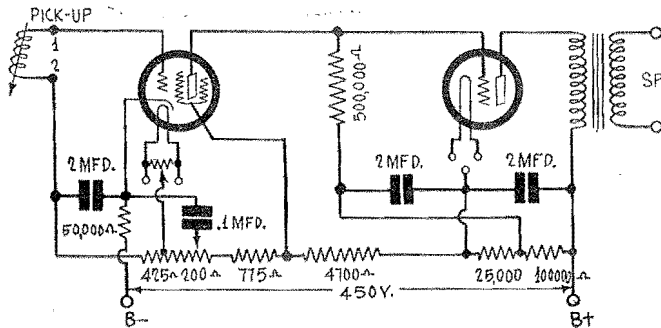
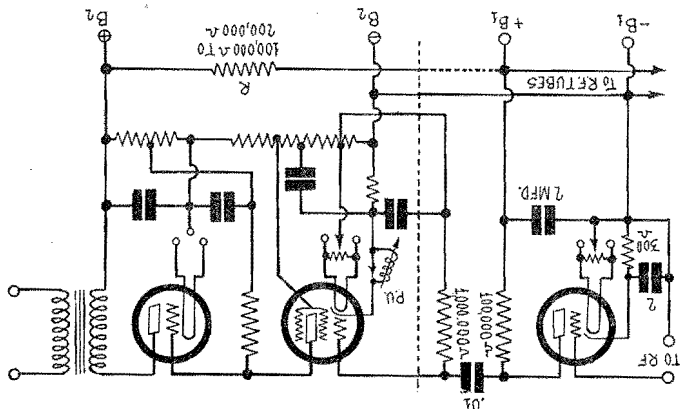

FIG. 1
FIG. 2
The connection of a phonograph pick-up unit to a Loftin-White amplifier is shown in Fig. 1. The usual input terminals of the non-reactive amplifier are numbered (1) and (2) and the pick-up unit is connected across these. That is all there is to the connection.
When a radio frequency amplifier is to precede the non-reactive audio amplifier it might be coupled as shown in Fig. 2. The first tube shown in this circuit is the detector, and this is followed by a regular resistance coupler. The dotted line shows the separation between the non-reactive amplifier and the detector. The design of the audio amplifier is exactly the same as that of the circuit in Fig. 1.
If it is desired to arrange the circuit in Fig. 2 so that a phonograph pick-up unit may be connected with a minimum of changes it is possible to put the unit in series with the cathode as indicated by PU. A switch may be provided so that the unit may be short circuited when radio is to be received. It is also possible to remove the one megohm grid leak and substituting the pick-up unit. Of course, when the pick-up unit is put into operation the radio frequency circuit should be killed.
If a radio frequency amplifier of any kind is available and it is desired to use this in conjunction with a non-reactive amplifier it is well to use all of it, including the detector. If the amplifier is sensitive and selective enough when an ordinary audio amplifier is used it will be so when a non-reactive circuit is employed. A simple way of combining the two is illustrated in Fig. 2. If separate B voltage supplies are to be used in this connection it is only necessary to remove the high resistance R and to connect the low voltage B supply to the terminals marked "To RF tubes," as marked by the terminals B1 minus and B1 plus. Lower voltages may be required for the screens of the tubes in the RF amplifier, but they will be provided for in the low voltage B supply.
In case there is a stopping condenser between the plate of one tube and the grid of another, as in Fig. 2, the two tubes separated by this condenser may be put on the same filament winding. Likewise when two tubes are coupled with a transformer they may be put on the same winding. It is only when they are coupled directly as in the Loftin-White system that they must be on separate windings.
Many non-reactive amplifiers have been published purporting to be Loftin-White, but not all of them should be blamed on these engineers. The circuits they have worked out are characterized by a hum-bucking condenser and by a high resistance in the cathode lead of the screen grid tube, higher than that necessary to give the proper bias to the control grid. Fig. 1 shows a typical circuit of this type. Both of these exclusive features are highly important. The hum-bucking condenser is effective in eliminating the hum and the cathode lead resistance in stabilizing the circuit. With these features the circuit works admirably.